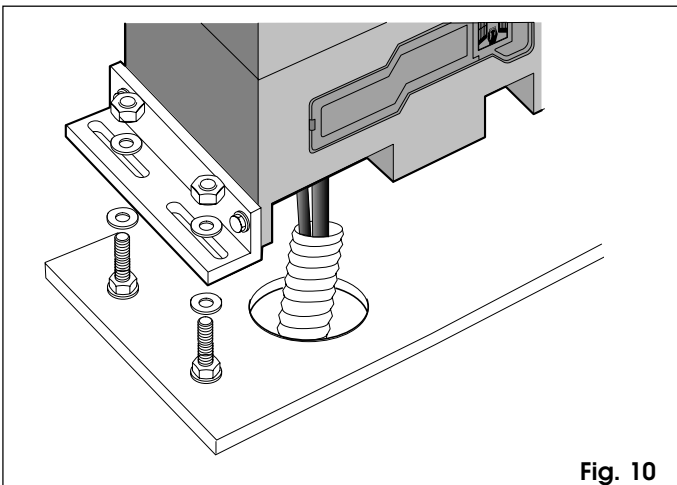

Fig. 10
- 3) Place the operator on the plate using the supplied washers and nuts as in Fig. 10.